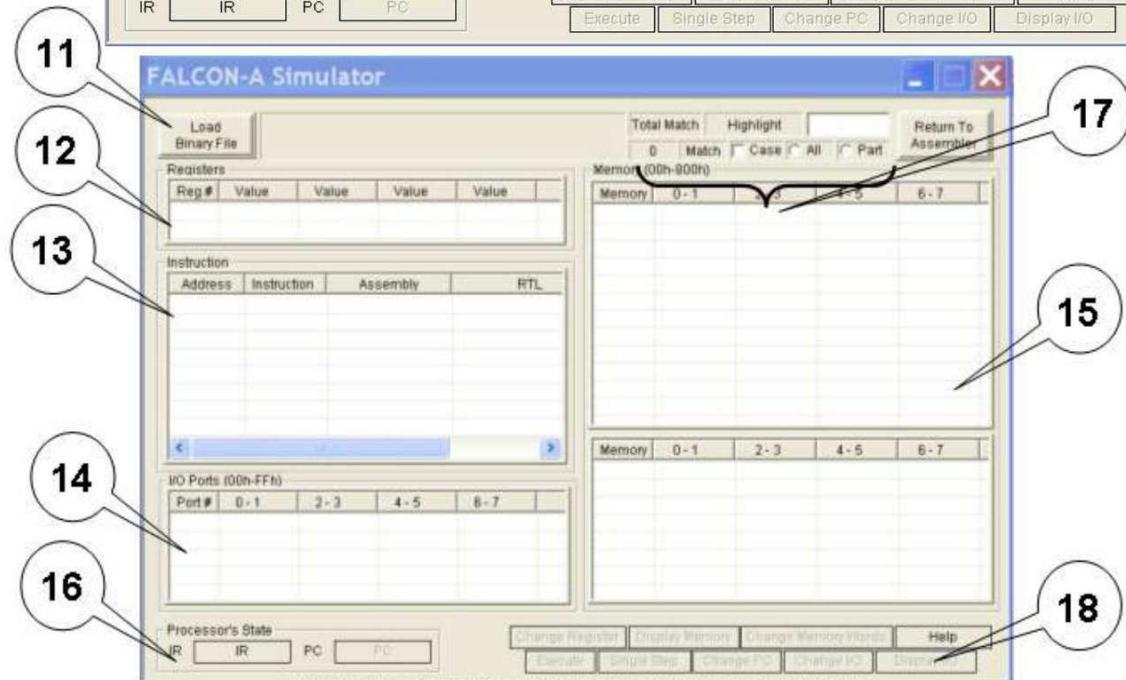

Figure 7
- Select the binary file to be simulated, and click open as shown in Figure 7.